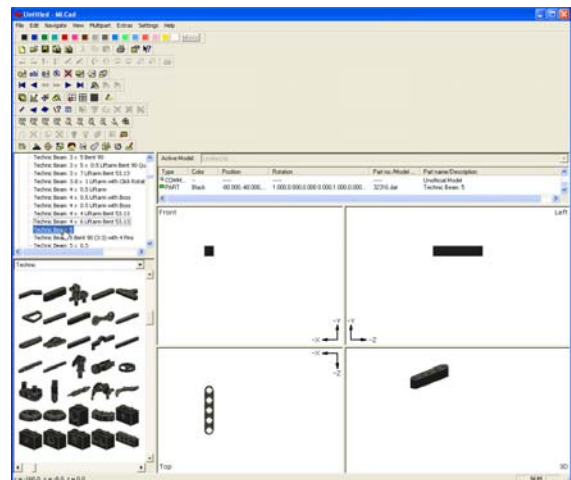

Figure 2B: As described in Step 2, scroll down to “Technic Beam 5”, click and drag to the Front panel (top left one)
Step 2: Scroll along the list of parts to “Technic Beam 5” (part 32316). Click and drag onto the “Front” panel as shown in **Figure 2B**